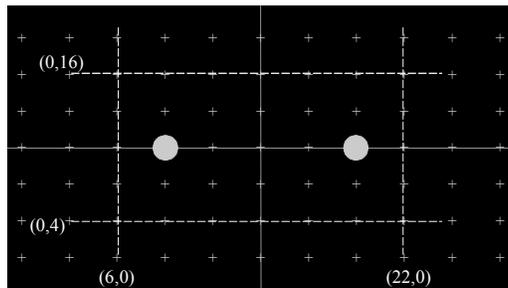

Figure 6 All equipotential points must lie in the rectangular region enclosed by the four lines.
3.4.4 Restrict the search to the area enclosed by the vertical lines at (6,0) and (22,0) and the horizontal lines (0,4) and (0,16). Refer to Figure 6.